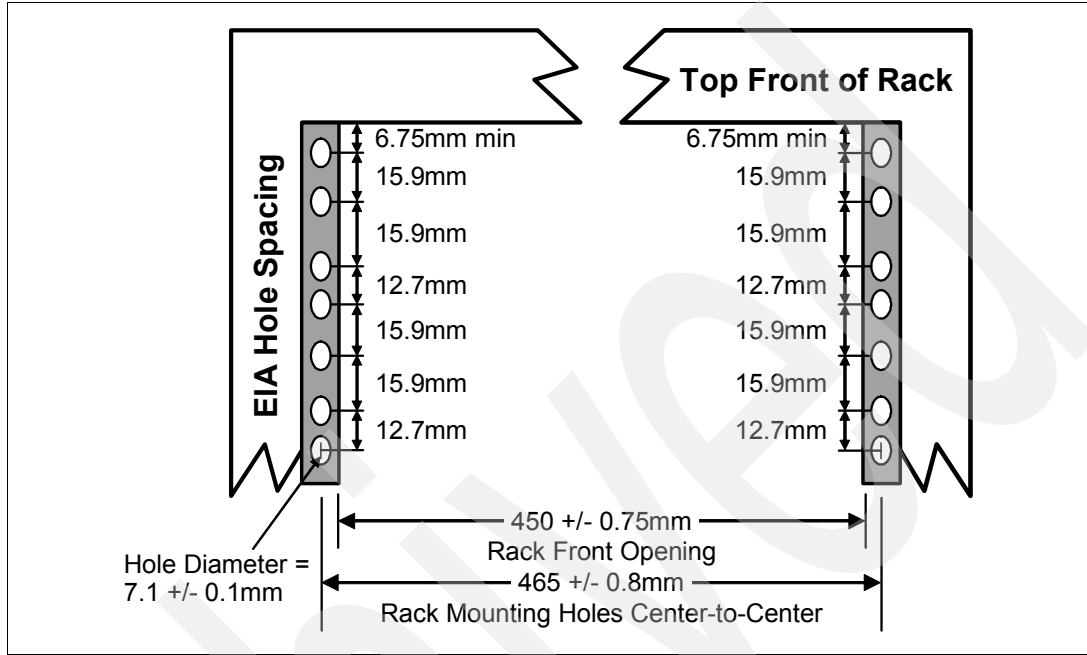

Figure 1-7 Rack specification dimensions, top front view
- ▶ The vertical distance between the mounting holes must consist of sets of three holes spaced (from bottom to top) 15.9 mm (0.625 in.), 15.9 mm (0.625 in.), and 12.67 mm (0.5 in.) on center, making each three-hole set of vertical hole spacing 44.45 mm (1.75 in.) apart on center. Rail-mounting holes must be 7.1 mm ± 0.1 mm (0.28 in. ± 0.004 in.) in diameter. Figure 1-7 shows the top front specification dimensions.